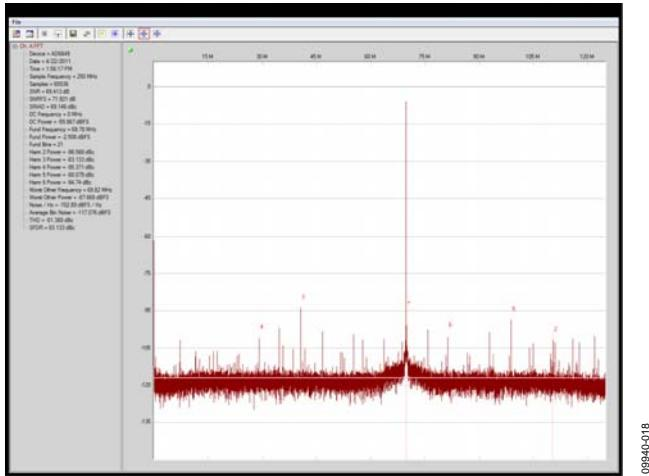
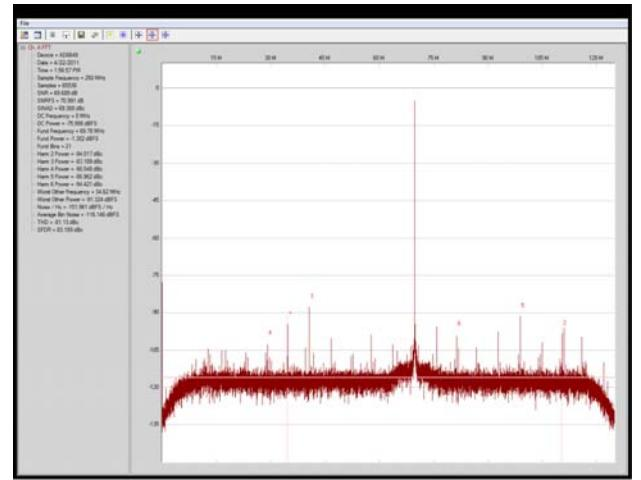

Figure 18. Visual Graph Window of VisualAnalog (AD6649)—95 MHz FIR Filter and Fixed-Frequency NCO Mode
Figure 19. Visual Graph Window of VisualAnalog (AD6649)—100 MHz FIR Filter and Tunable-Frequency NCO Mode
4. If operating the AD6649 in the mode using the 95 MHz FIR filter and fixed-frequency NCO, the amplitude displayed is -2.5 dBFS for a -1.0 dBFS input signal (see Figure 18) to the desired settings. If operating the AD6649 in the mode utilizing the 100 MHz FIR filter and tunable-frequency NCO, the amplitude displayed is -1.3 dBFS for a -1.0 dBFS input signal (see Figure 19).